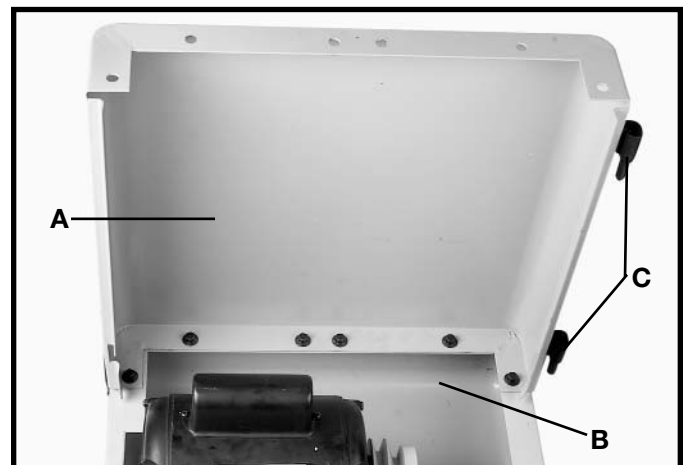

Fig. 7
9. Align the holes in the side (A) Fig. 7, with the holes in the stand top (B).
**NOTE: MAKE SURE THAT THE HINGE CATCHES (C) FIG. 7 ARE POINTED TOWARD THE STAND TOP (B) AS SHOWN.**